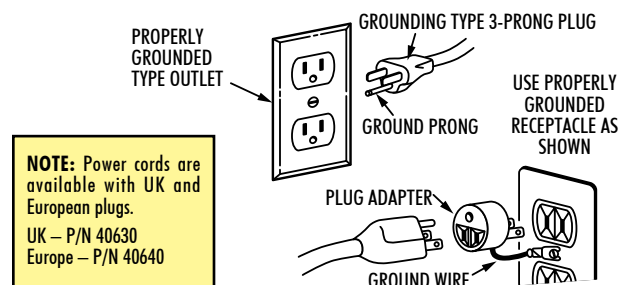

FIGURE 1 – Proper grounding for electrical connections.
2. **Ground All Tools** – If a tool is equipped with a three-prong plug, it should be plugged into a three-hole receptacle. If an adapter is used to accommodate a two-prong receptacle, the adapter wire must be attached to a KNOWN GROUND. Never remove the third prong (see Figure 1).